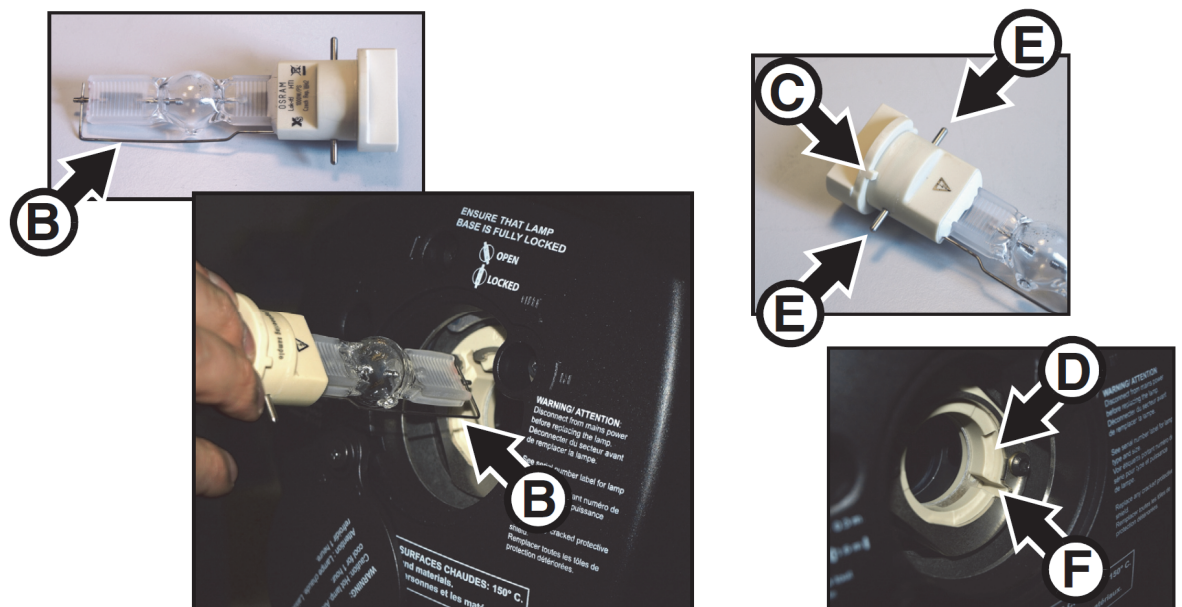

Figure 1.
1. See Figure 1. Hold the replacement lamp so that the external wire **B** is facing downwards, towards the bottom of the head.